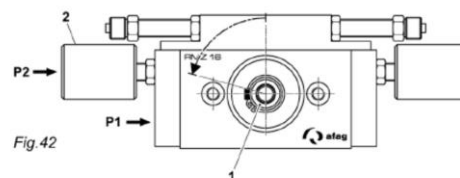

Fig. 42
- The pinion shaft (1) rotates anticlockwise until limited by the stop given by the intermediate position cylinder (2) (Fig. 42).